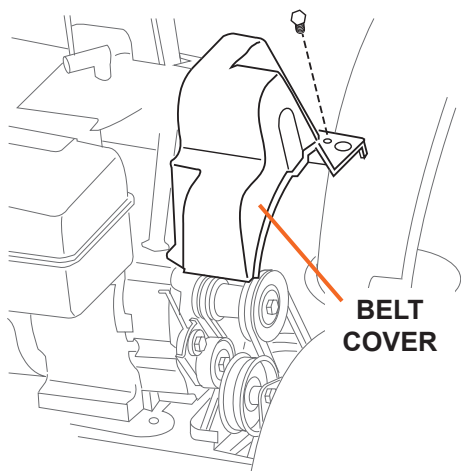

Figure 19
1. Remove the belt cover on the front of the engine by removing the two self-tapping screws (see Figure 19). Drain the gasoline from the snow thrower, or place a container to catch leakage from the gas cap.